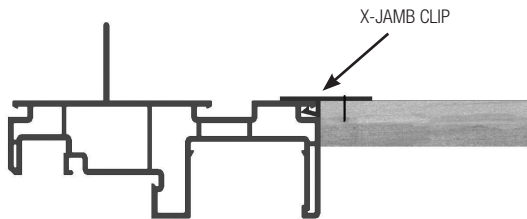

FIG. 2
- B) Install the 3" jamb extension clips around the perimeter of the frame, two on each corner, and then spaced on approximately 18" intervals along the frame. (Fig. 2) **Note: For drywall return, install lineal pieces.**
- C) Position the jamb extension as shown against the clips and staple or screw through the clip into the backside of the jamb extension. (Fig. 2)
- E) Make an "I-Cut" in the weather-resistant barrier (WRB). Begin with a horizontal cut along the bottom and the top of the rough opening. Then make a vertical cut in the center from top to bottom. (Fig. 2)